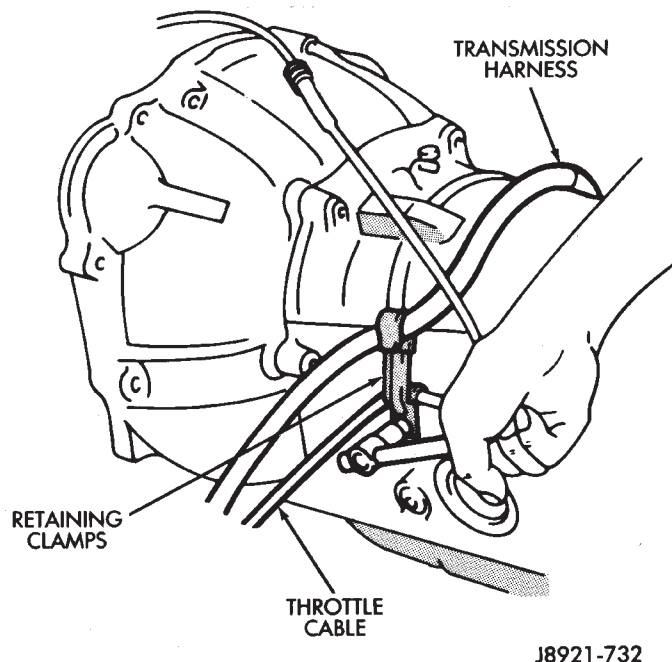

Fig. 69 Installing Cable/Harness Clamps
(99) Install retaining clamp for wire harness and throttle cable (Fig. 69).